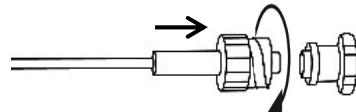

Figure 2
3. Connect the gas sample line (male Luer connector) to the respiratory gas monitor as shown in Figure 2. Rotate the Luer connector clockwise for a secure fit to ensure that there is no leakage of gases at the connection point.